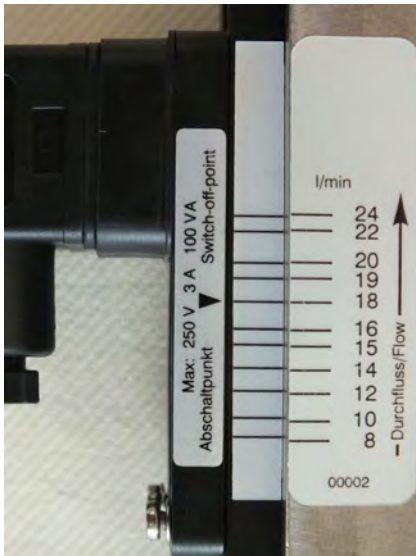

Fig. 36: Reading-off the switch point value (example)
1. ➤ Make sure that the setting arrow, the scale mark on the positioning aid label (adhesive label on the guide rail) and the appropriate scale mark on the switch point adjustment scale are in alignment. (Fig. 36).